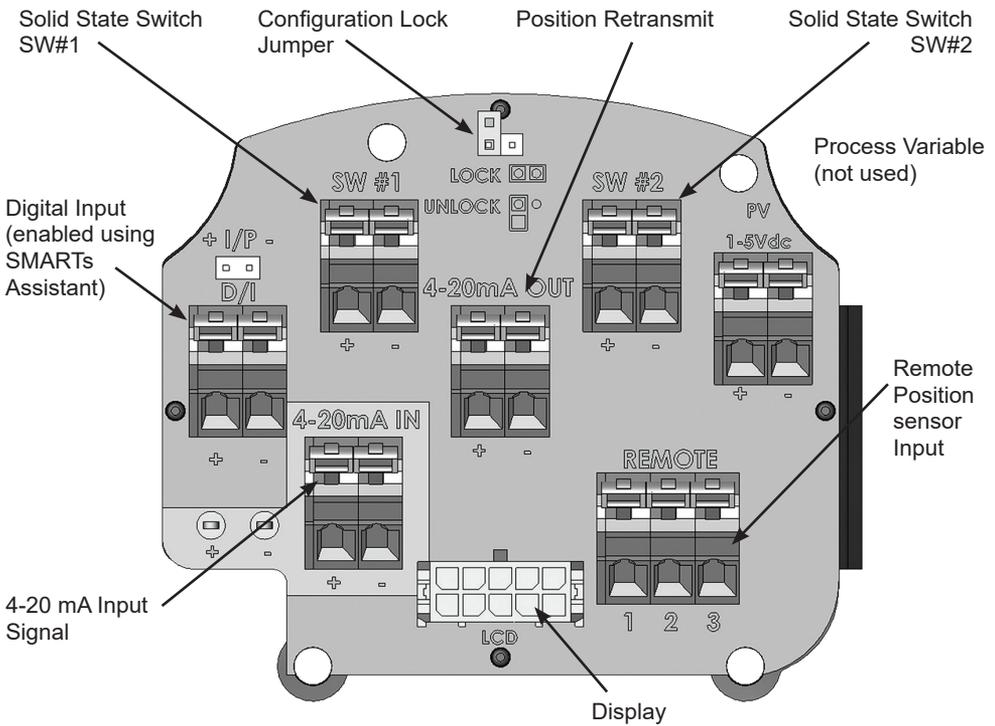

Figure 26 - Connections to Electronics Module (via Terminal Board)
2. Connect the +/- terminals from the 4-20 mA Out to the position retransmit input signal: + to + and - to -. See Figure 26 on page 36.